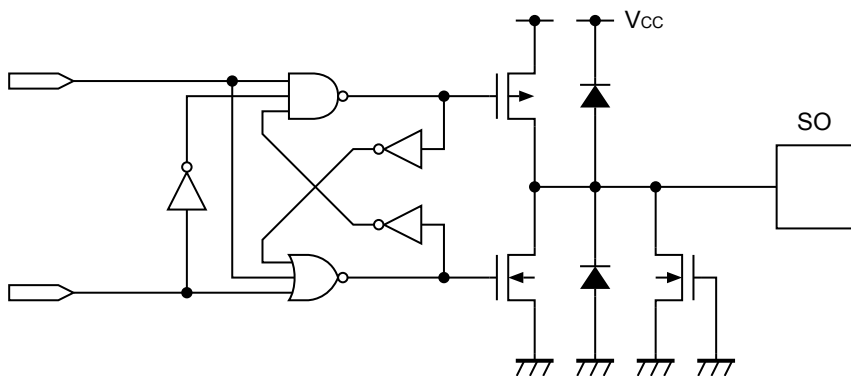

Figure 22 SO Pin
**Figure 22** shows the equivalent circuit of the output pin. This pin has the tri-state output of "H" level / "L" level / high impedance.